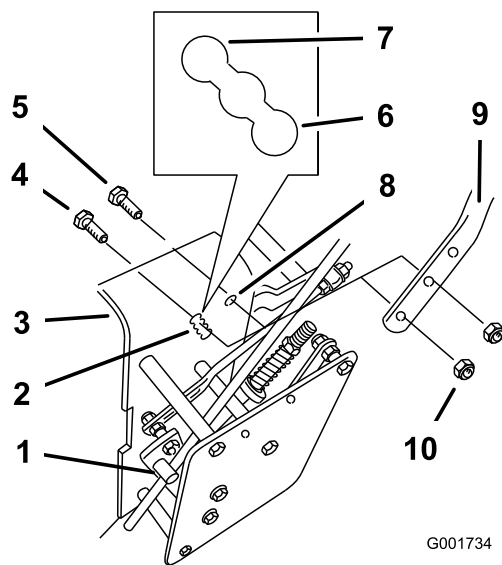

Figure 23
- Loosen the upper flange bolts (3/8 x 1-1/4 inch) and flange nut securing handle to rear frame (Figure 23).
- Remove the lower flange bolts (3/8 x 1 inch) and flange nuts securing handle to rear frame (Figure 23).
5. Adjust the control rod length by rotating the control rod in the rod fitting (Figure 23).